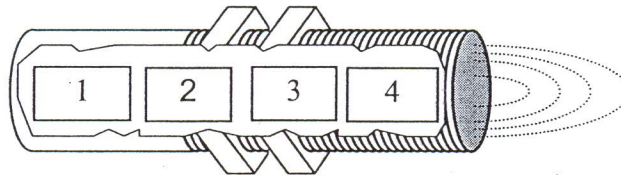

Figure 2: Composition of proximity sensor
- (a) **Figure 2** shows the composition of proximity sensor